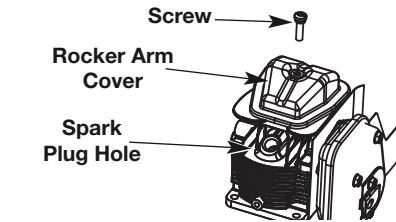

Fig. 29
- Clean dirt from around the rocker arm cover. Remove the screw holding the rocker arm cover with a large flat blade screwdriver or Torx T-25 bit (Fig. 29). Remove the rocker arm cover and gasket.
- The piston is at the top of its travel. This should be done by looking into the spark plug hole. (Fig. 29)